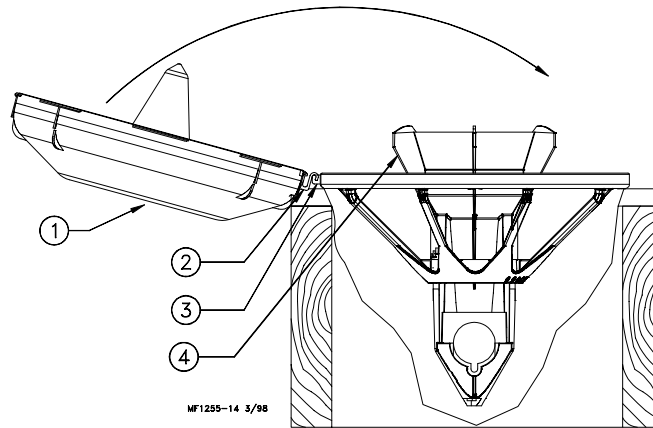

Figure 20. Assembling Pan to Model G Plus Grill
3. Interlock the hinge hook on the pan with the hinge lip on the grill. The pan should be face up, as shown in Figure 20.